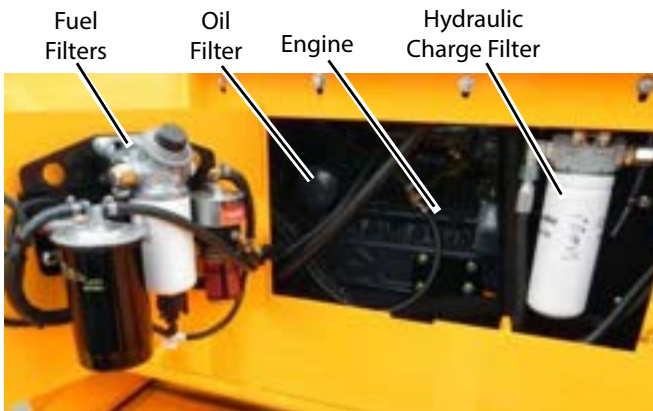

Figure 5-20. Hydraulic Charge Filter
8. Change the hydraulic charge filter by turning filter counterclockwise, then replace with new filter turning clockwise until snug (by hand only). **(Figure 5-20)**